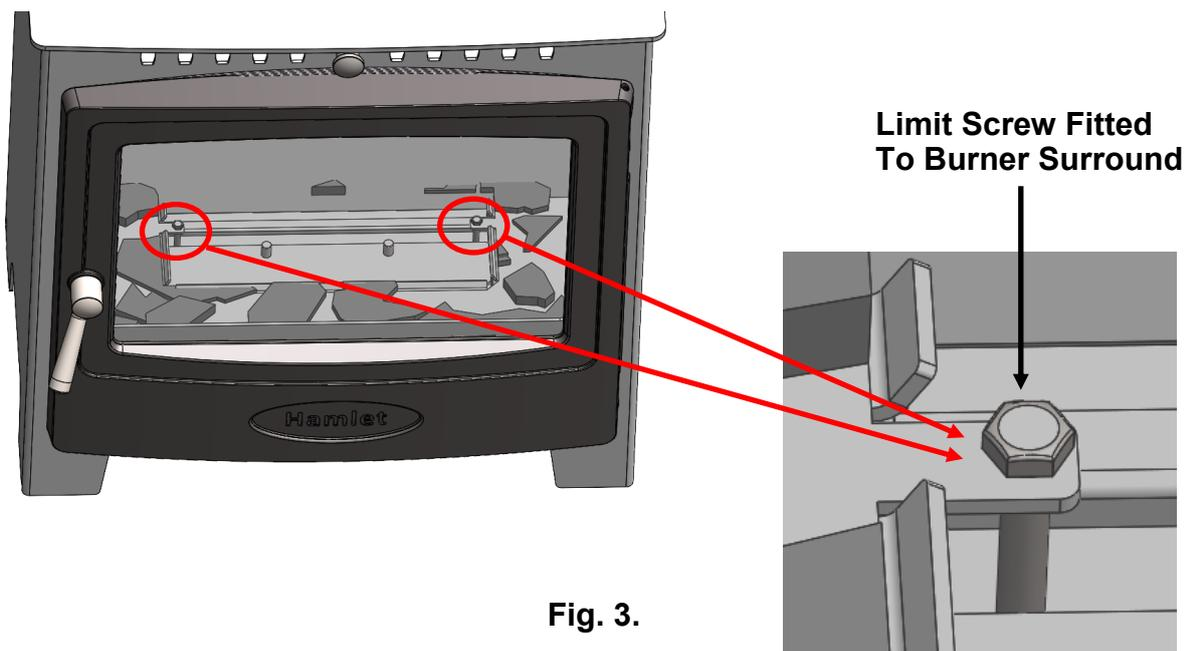

Fig. 3.
**NOTE :** The above dimensions are the **MINIMUM** requirements when locating the appliance in an alcove or recessed opening. Together with the above minimum dimensions the 2x limit screws **MUST** be fitted to the burner surround as shown in Fig. 3. With the limit screws fitted, the burner closure plate, partially restricts the burner opening and a reduced burn rate will operate, thus ensuring a reduced body surface temperature.